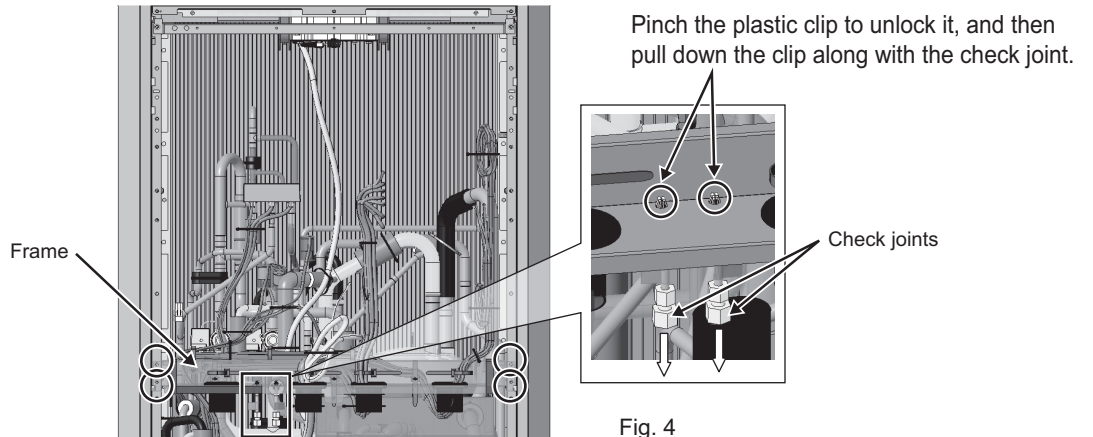

Fig. 4
(4) Remove the plastic clips and the wiring from the frame, and then remove the frame. (Four screws: Fig. 4)